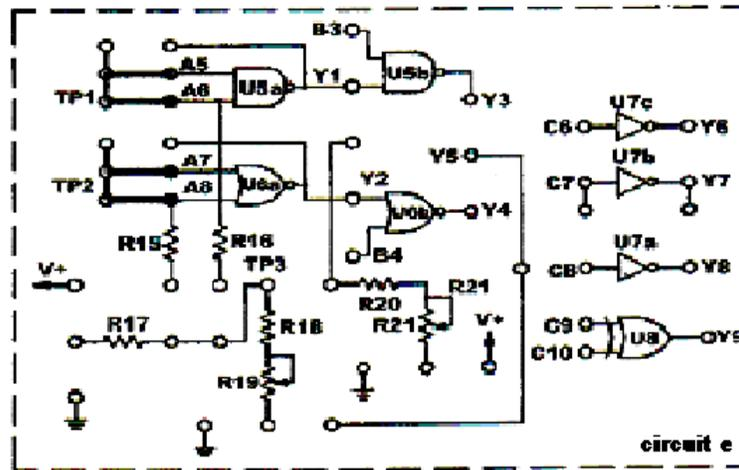

Fig. 1-2 (f)
1. Insert connection clips according to Fig. 1-2 (f). U5 is a standard series CMOS CD4011. Connect VDD to +12V output of the Fixed Power Supply.